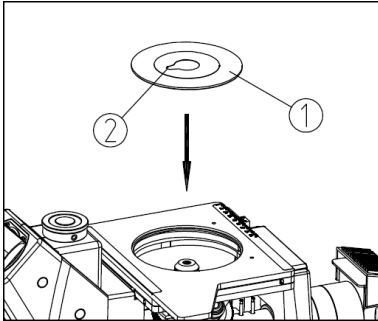

Fig.5
- (1) Set the metal stage ① on mechanical stage as the direction showed. (Fig. 5)
- (2) Turn the metal stage to make the V hole ② direct to the user.